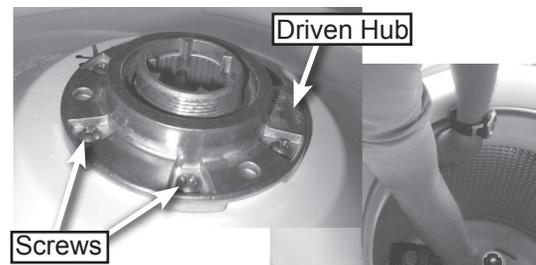

Figure 4
4. Remove six (6) screws from basket driven hub. **IMPORTANT:** Remove the screws slowly if using a powered screwdriver. Hold up on basket while removing the last two (2) screws to avoid stripping out threads. See figure 4.